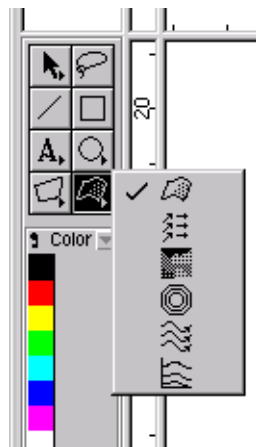

Figure 32. Post-Processing Tool, drawing contours
2. Hold the mouse button down over the post-processing tool at the lower right of the tools found at the upper left edge of the *Argus ONE window*, and select the contour drawing tool from the pull-down list (Figure 32); this is the tool with concentric circles.